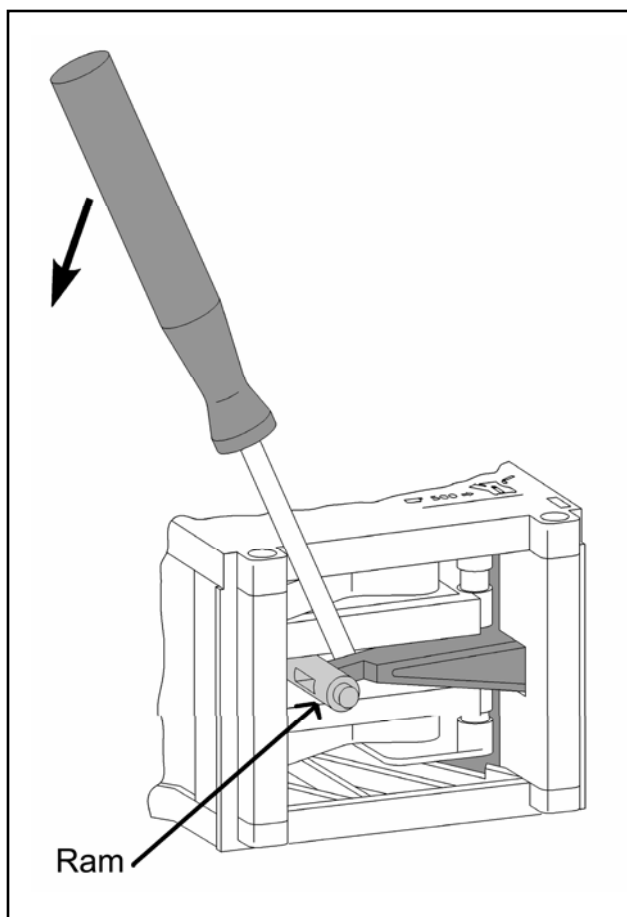

Figure 5-29: Releasing the Ram from the Bottom of the Brew Unit
3. Remove the bottom filter screw and filter (Figure 5-29, Items 1 and 2).